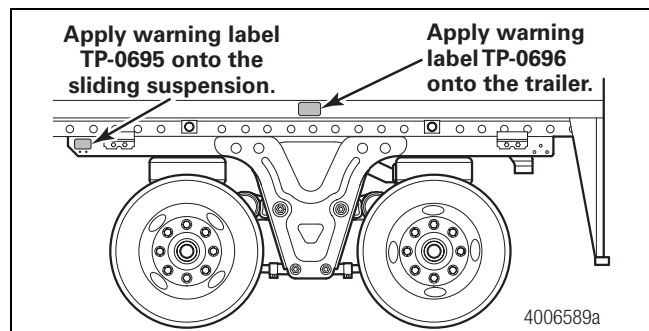

Figure 15
16. Apply the following warning labels that are included in Kit 11330 onto the sliding suspension and the trailer: TP-0695, Push-Button Actuator; and TP-0696, Repositioning Procedure for a Sliding Suspension with Push-Button Actuation. Refer to Figure 15 for correct placement of these labels.